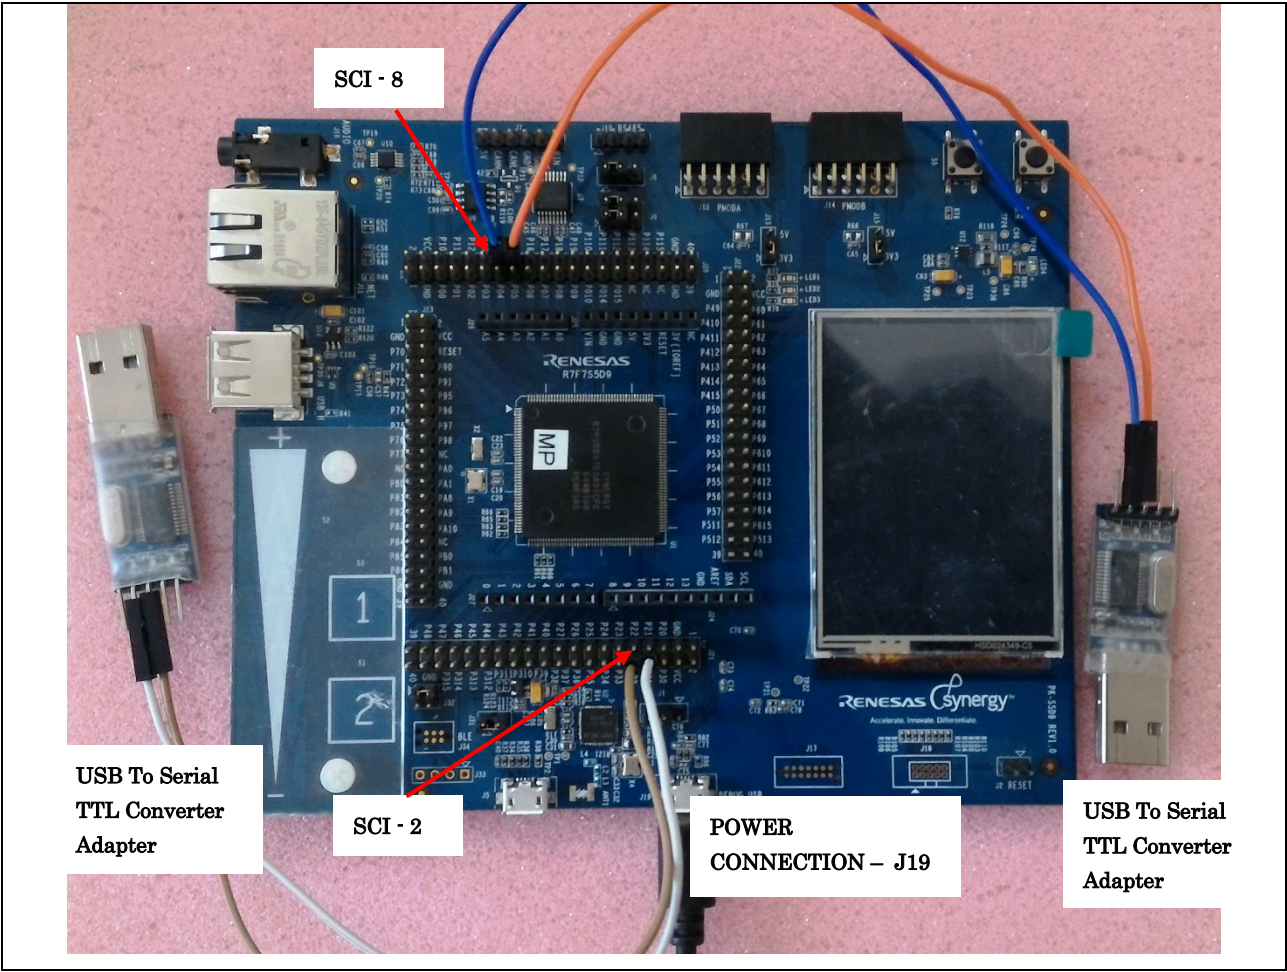

Figure 4 PK - S5D9 Connectivity
- Connect USB to RS232 Serial TTL adapters to SCI-2 and SCI-8 (see Figure 4)
- Connect serial adapters to a USB port on the PC (see Figure 4)